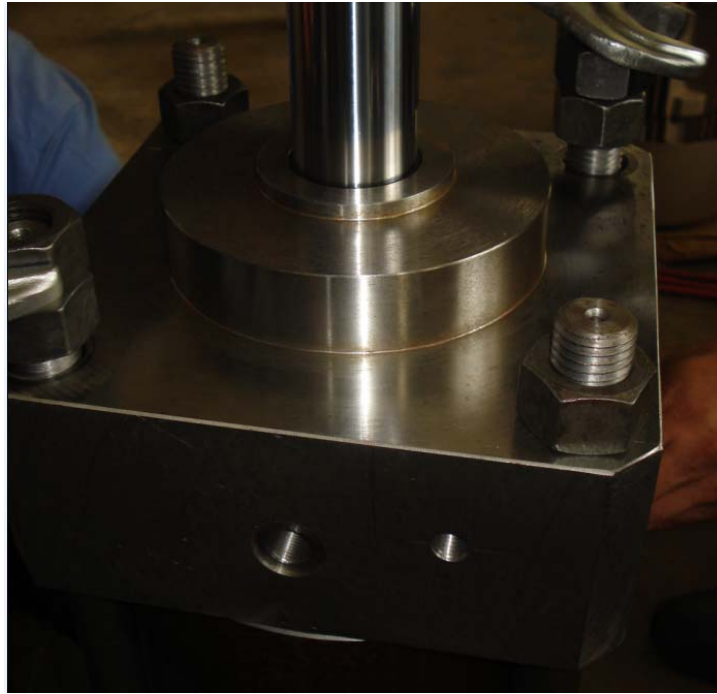

Figure 14 : Final Assembly
- The tightening of Nuts should be done diagonally so that there should not be any misalignment. Also keeping into the mind that while tightening there should be enough engagement at the Rear fork clevis block and when completely tightened the Tie rod is fully engaged with the Rear Fork Clevis block and also the Hex nut and Lock Nut as shown in figure 14